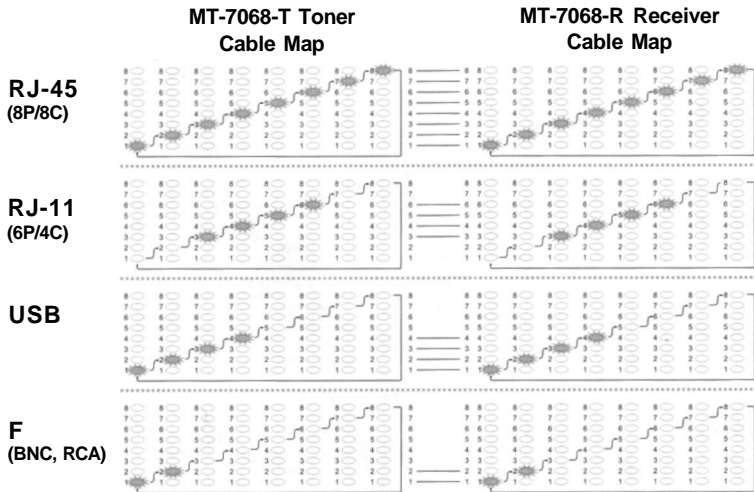

Figure 6 Different Connector's Cable Map
3. Different connectors generate different LED and sound indications as shown in Figure 6.